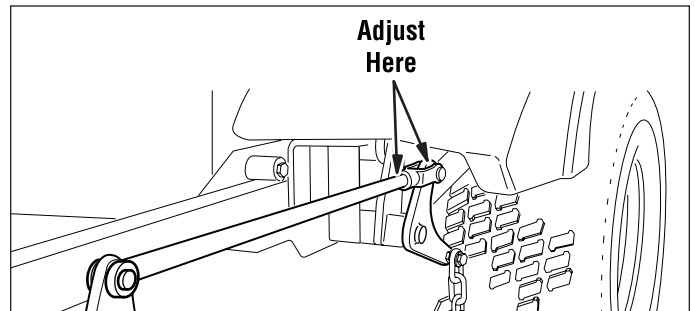

Figure 16. Adjust Lift Rod Timing
6. Block up the mower deck until all hanger chains are slack. Refer to Figure 16.